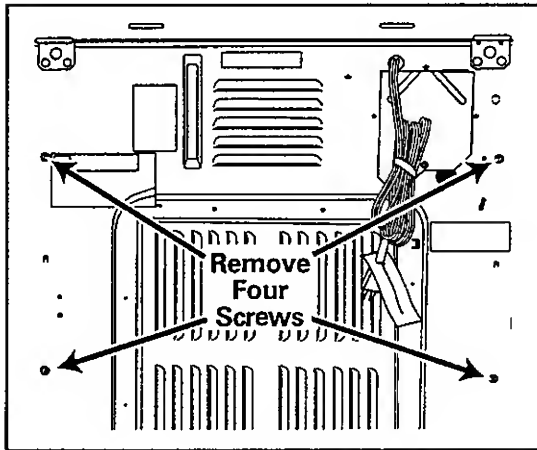

Figure 10-10
7. From back of dryer, remove four screws holding tumbler back assembly and remove assembly (*Figure 10-10*).